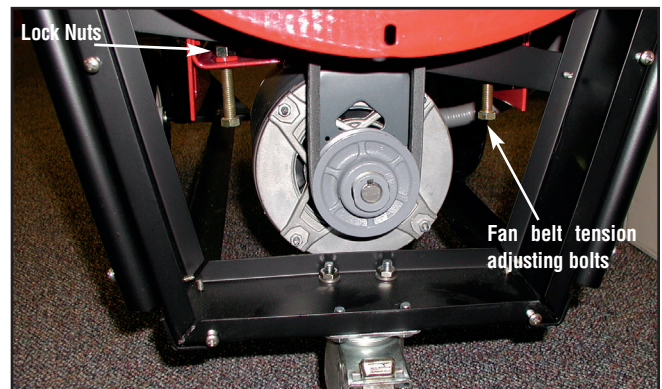

Figure 2
6. Loosen the (2) motor tension lock nuts and the fan belt tension adjusting bolts. See Fig.2
- Adjust fan belt tension, see Fig. 2. A 1/2" of belt deflection is recommended. Tighten lock nuts.